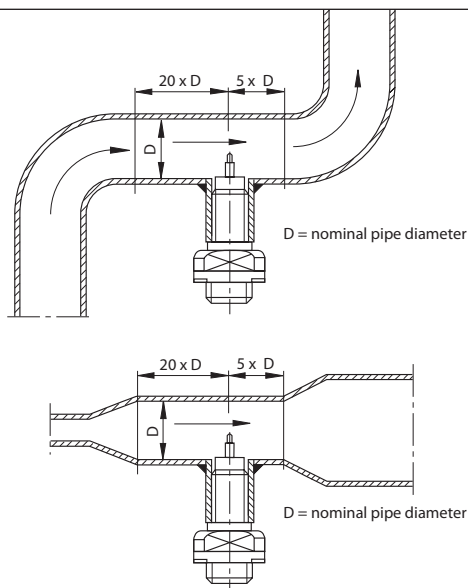

fig. 9
- The monitoring head should be installed only in a straight section of piping. There should be a distance of at least 20 pipe diameters before the monitoring head, and 5 pipe diameters after the monitoring head before or after bends and changes in pipe diameter, to avoid any effects of turbulence (see fig. 9).